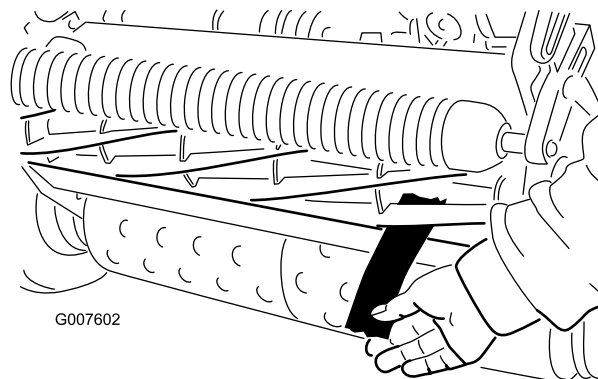

Figure 46
11. Test the cutting performance by inserting a long strip of cutting performance paper between the reel and bedknife, perpendicular to the bedknife (Figure 46). Slowly rotate the reel forward; it should cut paper.